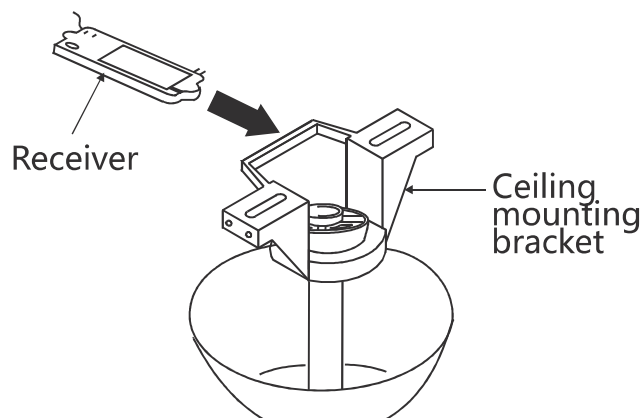

Fig.7
Step 1. Insert the receiver into the ceiling mounting bracket with the flat side of the receiver facing the ceiling (Fig.7). For best performance, make sure the black antenna, on the end of the receiver, remains extended and not tangled with any of the electrical wires.